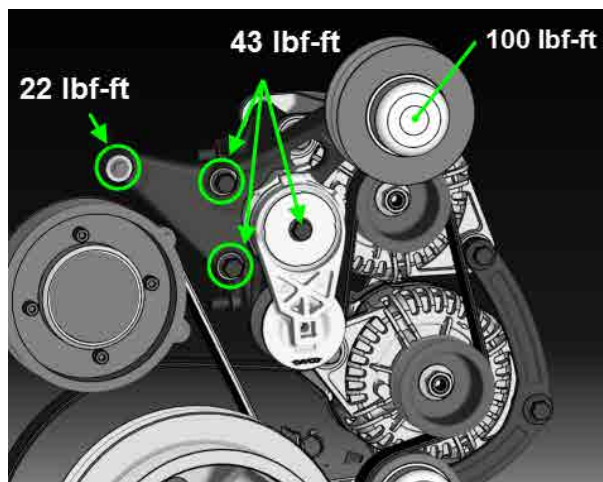

FIGURE 30
20. Reinstall the A/C compressor idler pulley bracket assembly (**FIGURE 30**). Apply Loctite 243 on threads. Reinstall the A/C compressor belts.